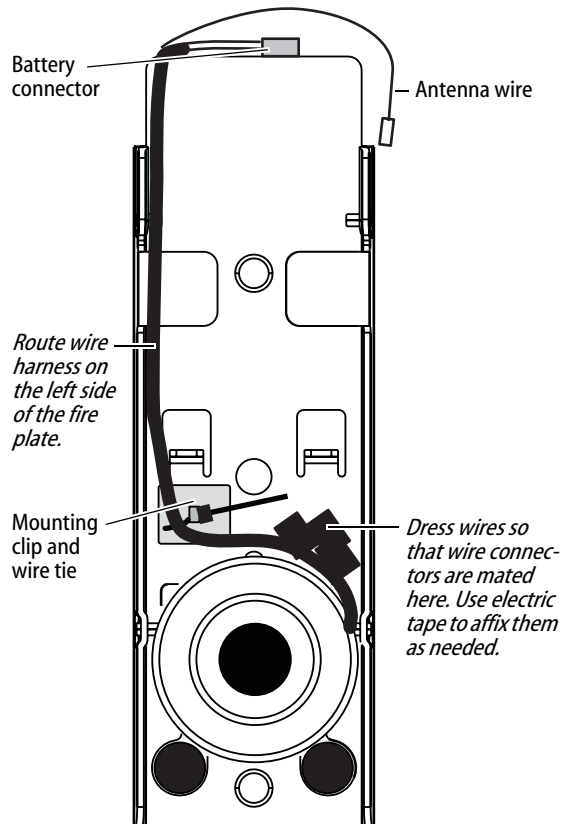

Figure 15 Routing the wires (view of the inside escutcheon)
- 2 Route the battery connector and antenna wire above the side tabs. See Figure 15 for additional detail.
2 Insert the plastic wire tie through the mounting clip and secure the wires as shown in Figure 15. See Figure 15 for additional detail.